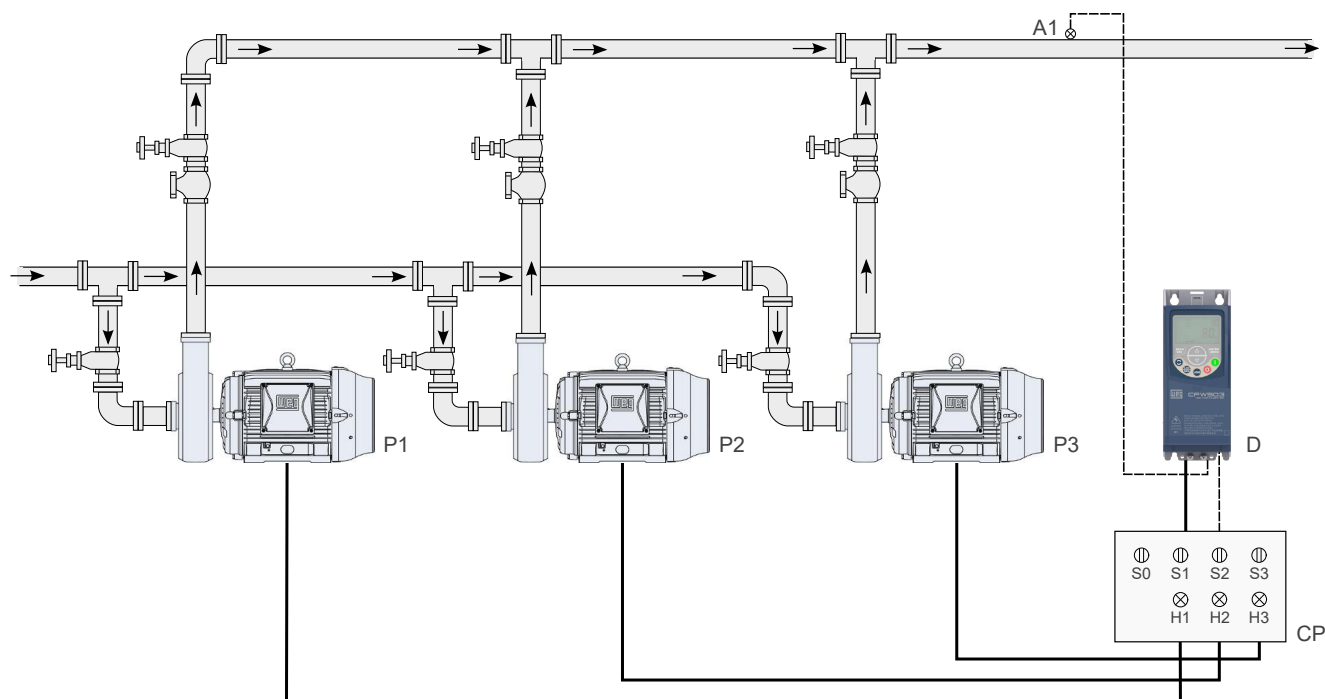

Figure 4.20: Pump Genius Multipump application with floating control, three pumps in parallel and control setpoint via HMI
The Figure 4.20 at page 4-23 presents a typical system with three pumps and control setpoint via HMI basically composed of:
The signals H1, H2 and H3 are not necessary for the operation of the Pump Genius Multipump with floating control, three pumps in parallel and control setpoint via HMI, because they only serve to indicate the operating condition of the pumps on the command panel (CP). In Figure 4.20 at page 4-23, the signals H1, H2 and H3 come from auxiliary contacts of contactors K1, K1.1, K2, K2.1, K3 and K3.1 which start the pumps 1, 2 and 3.